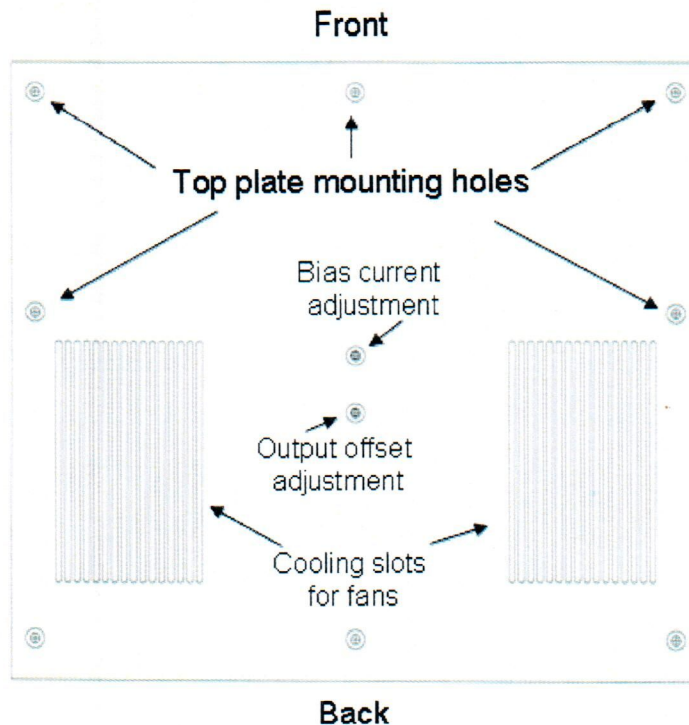

Figure 6 – View of Top Panel
The *Amp I* has only two adjustments that may be required to maintain full operational capability. These involve setting the output offset voltage and output-stage bias current. These adjustments are made through the top panel of the unit and their respective locations are shown in **Figure 6**. These adjustments should be made only after the amplifier has been operating in the **Run Mode** for several hours to ensure that all components have reached thermal equilibrium. These adjustments will require use of the 1/8" hex key (supplied) and the 6" long, #0 Philips head screwdriver (supplied).
With reference to **Figure 6** and also **Figure 3**, proceed as follows: (This adjustment should be performed without an input signal.)
- Using the supplied 1/8” hex key, remove the eight 10-32 button-head screws around the perimeter of the top panel, as shown in **Figure 6**, and remove the top panel. The amplifier board, shown in **Figure 7**, will now be visible between the two output heat sink towers.